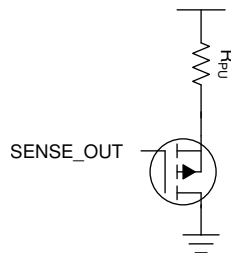

图 8-7. Additional Components for the PG Pin to be Pulled Up to Another Rail
Because the power-good (PG) pin is pulled up internally to the output rail, this pin cannot be pulled up to any voltage or wire AND'd like a typical open-drain PG output can be. If this signal must be pulled up to another logic level then an external circuit can be implemented using a PMOS transistor and a pullup resistor. Implementing the circuit shown in Figure 8-7 allows the outputs to be pulled up to any logic rail. If a PMOS transistor is used make sure to pick a transistor with a low threshold voltage as this will determine the output low voltage. this can also be done with a NMOS transistor, but it inverts the logic. This implementation also allows the outputs to be AND'd together like the traditional power-good pins.